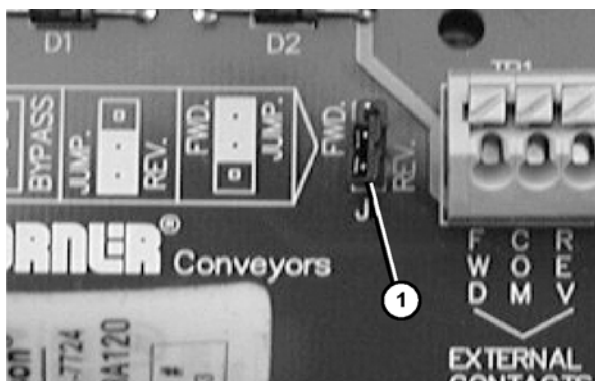

Figure 13
For forward belt movement, install the jumper (**Figure 13, item 1**) between the FWD pin and center pin, the top two pins. For reverse belt movement, install the jumper between the REV pin and the center pin, the bottom two pins. (This jumper is removed when direction is controlled from the remote machine interface terminals.